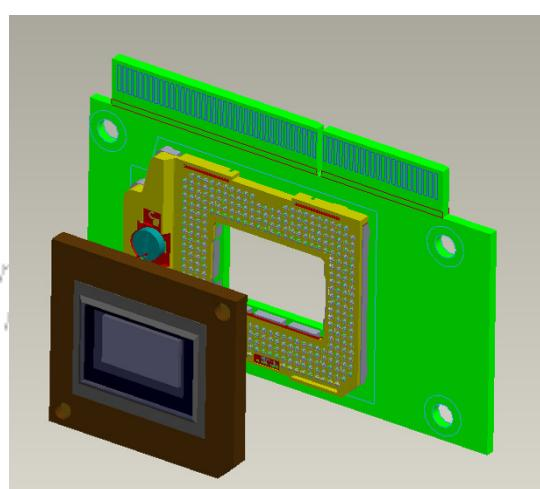

Fig. 4-3
4.2. Alight keying and Assemble DMD to Chip B/D (Fig. 4-3).